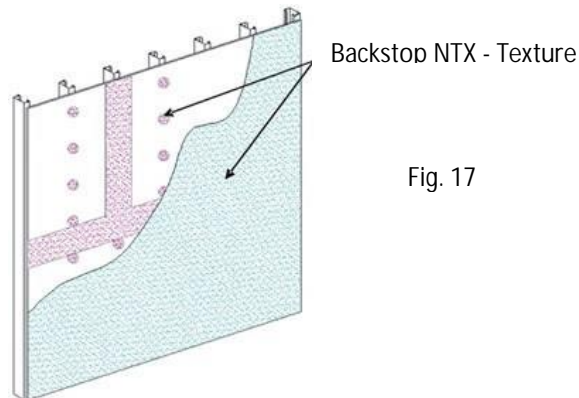

Fig. 17
- c) Use a coarse, open-cell foam roller cover with a 3/8 in (9.5 mm) foam nap (FoamPRO #58 roller). Apply a uniform, continuous film of Backstop NTX - Texture over the entire surface of the sheathing, concrete or masonry, including the previously treated areas – Figure 17. NOTE: If the roller pulls material back out of the sheathing joints, it indicates that the joint material is not sufficiently dry.